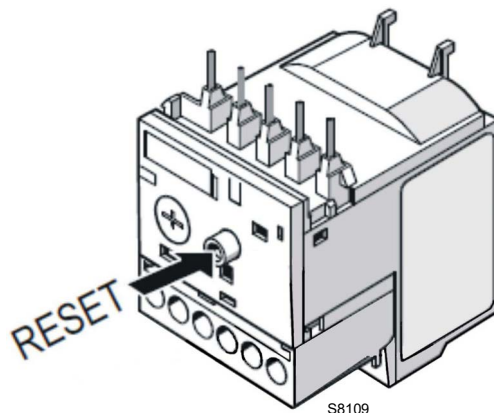

Fig. 21
- To reset, in the case of an intervention of the thermal relay, press the button "RESET" (Fig. 21).